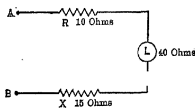

Fig. 30. The pieces R , L and X are in series.
Example 2. In the series circuit of Fig. 30, 3 amperes are flowing.
18. Application of Ohm's Law. It should be noted that in solving the Example on page 28, Fig. 30, Ohm's Law was used in (a) to find the voltage necessary to force the current through the whole circuit of the three resistances, *R*, *L* and *X*.